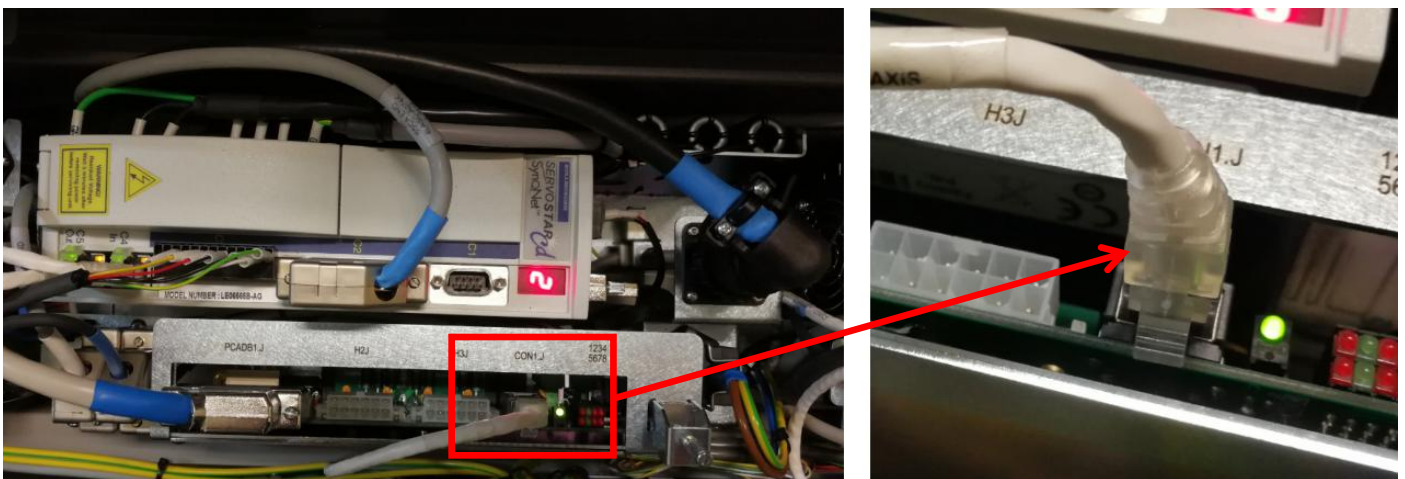

Figure 23
28. Connect X axis Interlock Cat5 Cable at CON1J as Figure 23 .